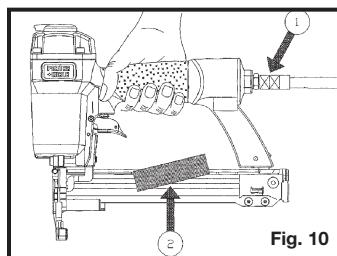

Fig. 10
**17. Connect tool to air supply before** loading fasteners, to prevent a fastener from being fired during connection. The tool driving mechanism may cycle when tool is connected to the air supply. Fig. 10.